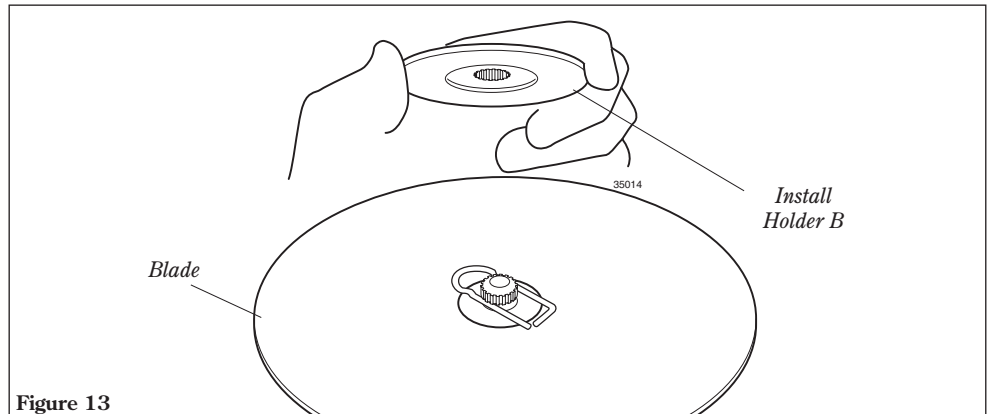

Figure 13
6. Install Holder B on the gear case shaft. See Figure 13.